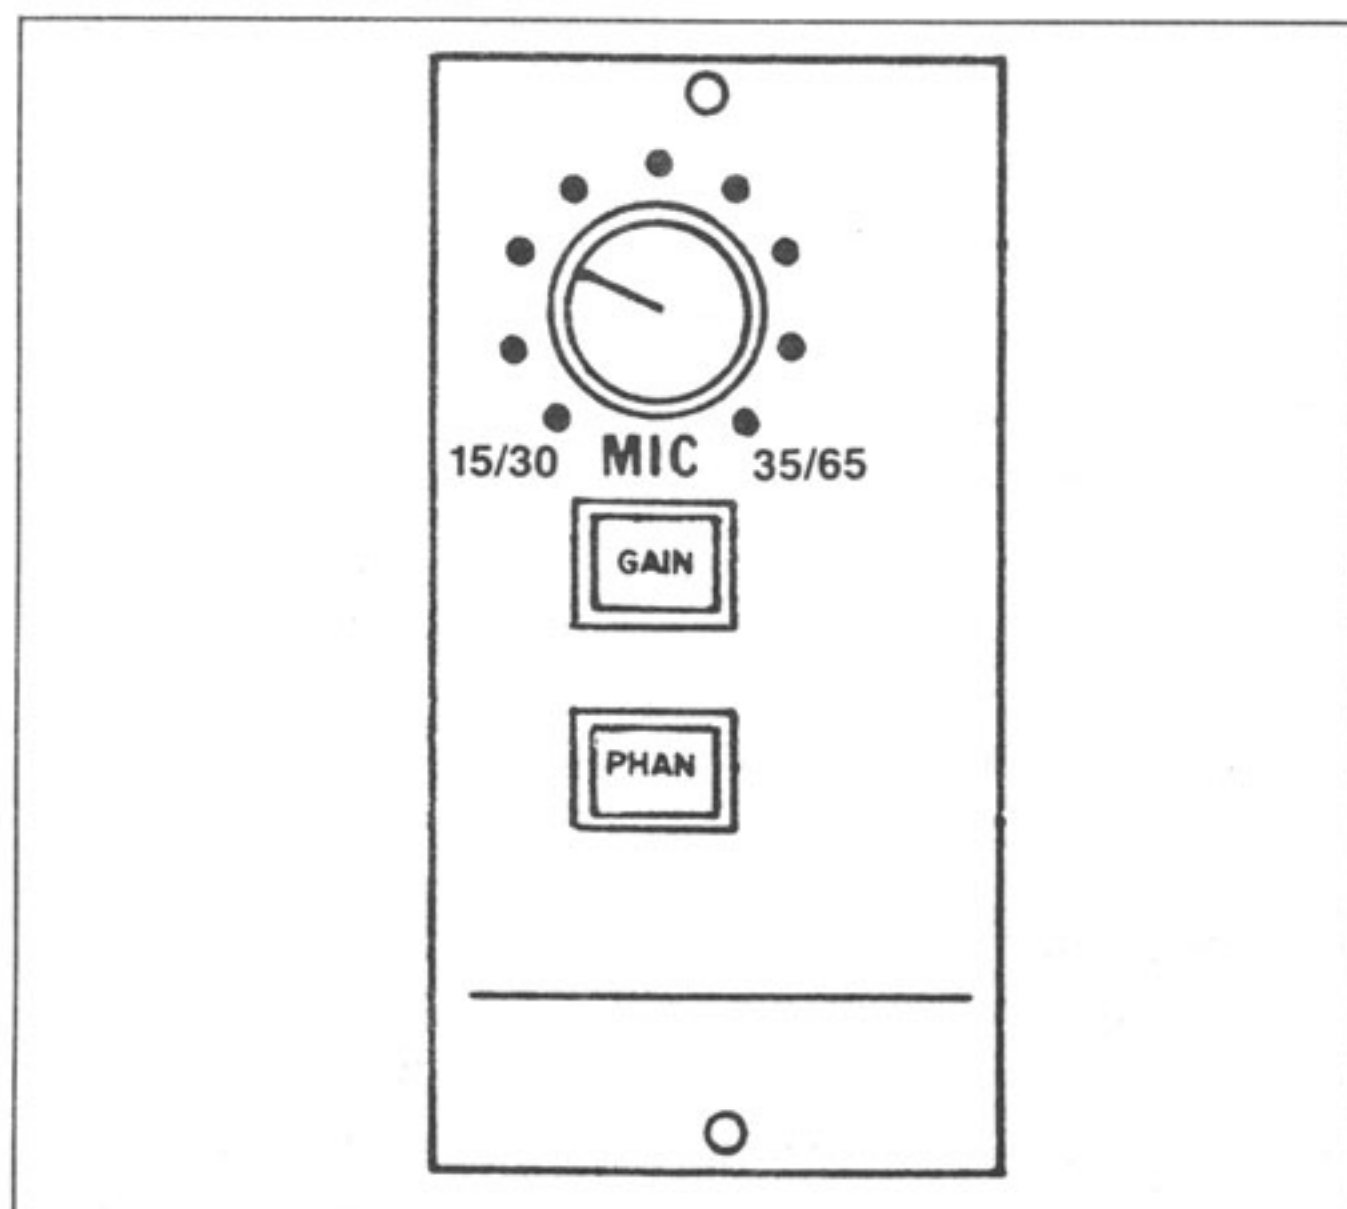

Figure 1-3. Microphone Pre-amplifier MXBK-MI31
- **MXBK-MI31** Single channel electronically-balanced Microphone Pre-amplifier with controls for Phantom power and Gain (see Figure 1-3).